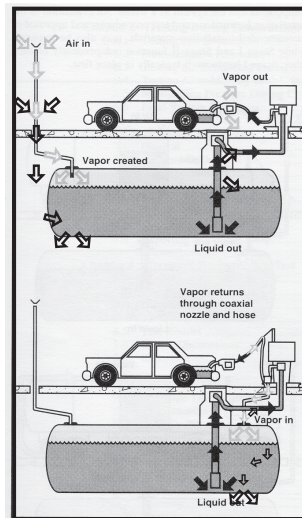

Figure 9, Stage II
1. All applicable gasoline dispensing facilities must be equipped with a California Air Resources Board (CARB) approved Stage II vapor recovery system. (*Figure 9, page 9*) CARB approved Stage II vapor recovery systems are issued as Executive Orders. CARB Executive Orders for Stage II systems are at www.arb.ca.gov/vapor/eo.htm.